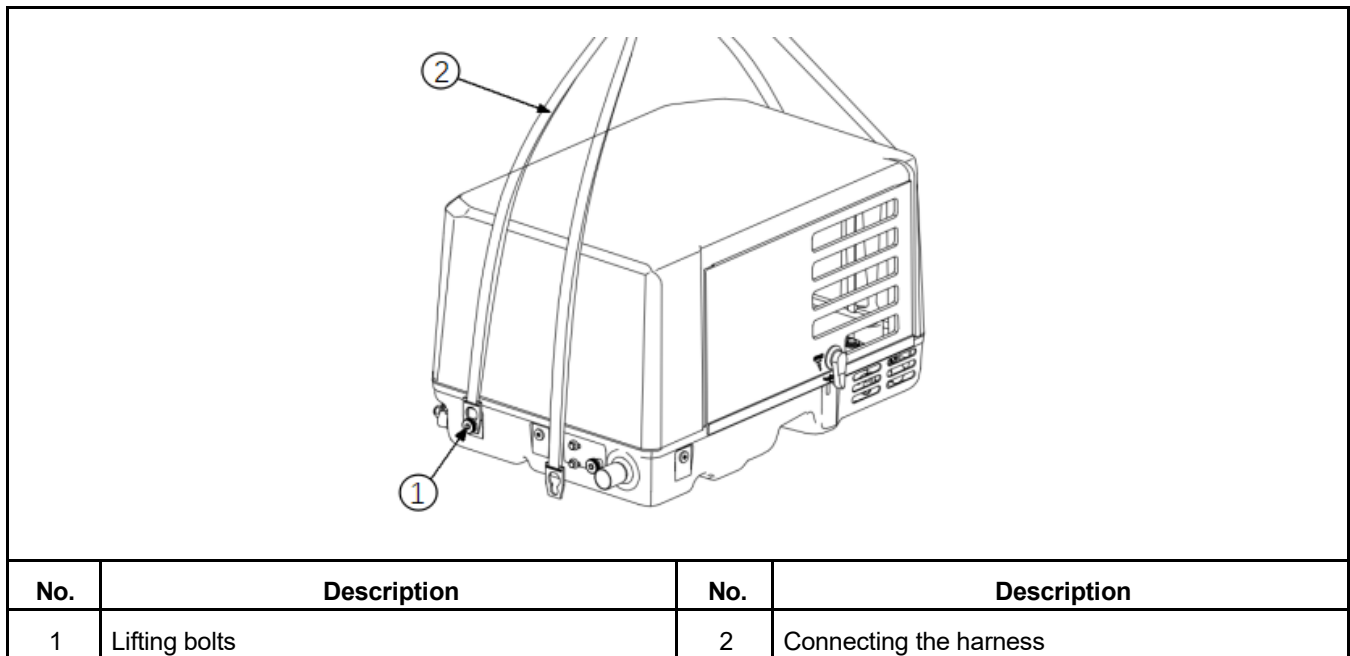

FIGURE 7. GENERATOR LIFTING TOOLING
- Four M10x1.5, length 20 mm bolts into the ends or bottom of the base (Figure 7) are used to secure the generator set to special brackets from the vehicle floor, frame, or to frame members underneath (Figure 7).
- Four M10x1.5, length 20 mm bolts into the bottom of the base (Figure 7) are used to secure the generator set to the floor of the compartment.
Figure 7 illustrates the four lift-hook slots for generator set lifting. A lifting rig must spread the hook straps such that they do not crush or bend parts such as the control box, air filter and fuel lines while lifting. See the Specifications section regarding the weight of the generator set and make provisions accordingly for safe handling.